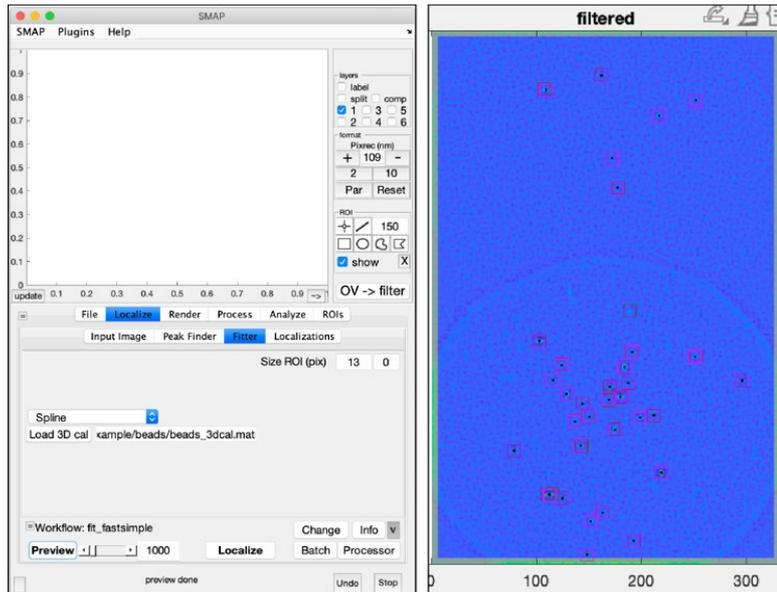

Figure 3: Fitting GUI and result of preview.
6. Select a large frame (e.g. 1000 as the first frames are still too dense to optimize fitting parameters) and press **preview**. The results should be comparable to those in Figure 3.